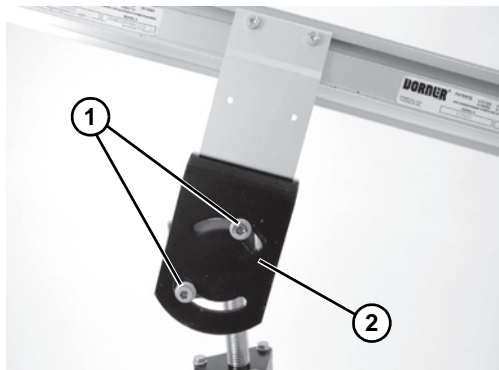

Figure 24
To rotate stand, screws (Figure 24, item 1) may need to be re-located to other holes in the stand top end plate (Figure 24, item 2).
1. Loosen flange socket screws (Figure 24, item 1) on both sides of stand.